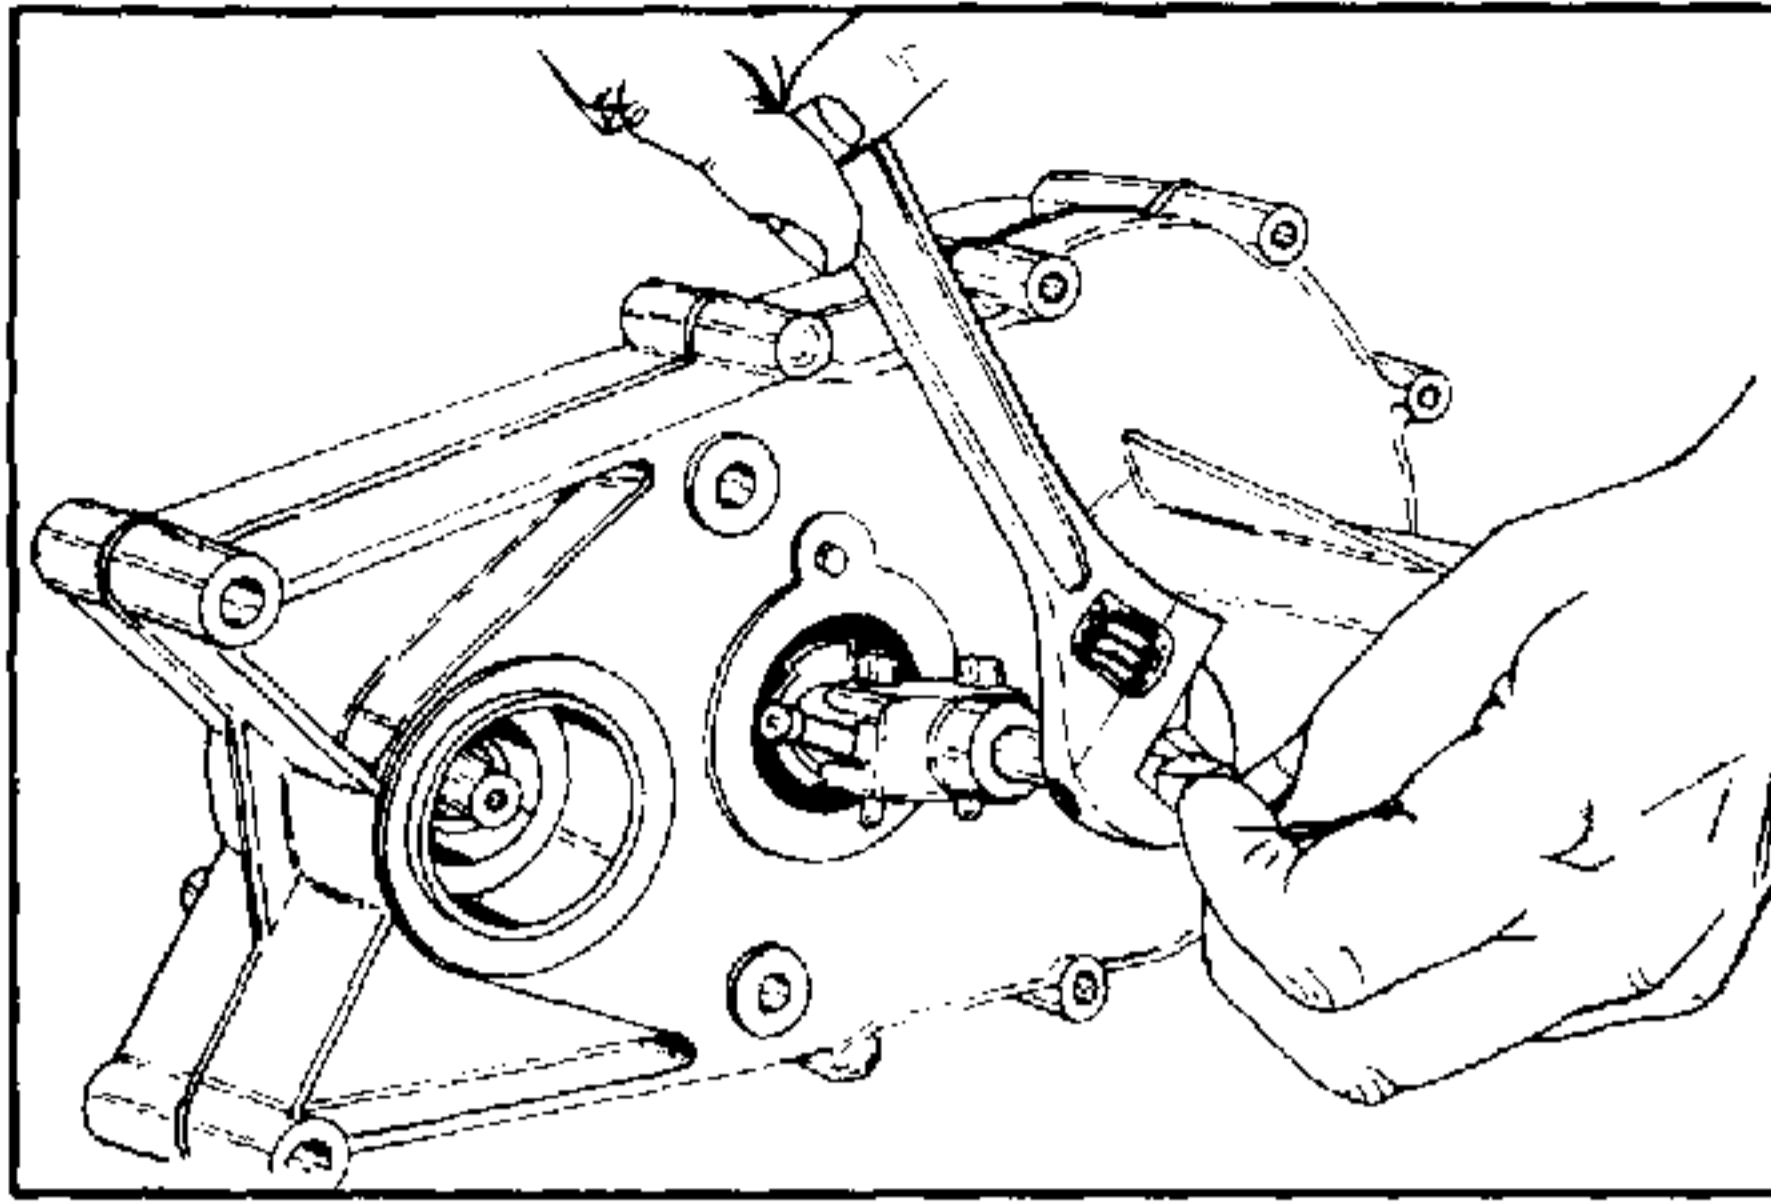

FIGURE 7.
- 4.21 Couplings are locktited in place and thus a puller is recommended. Figure 7. Tapping lightly or heating couplings may be necessary for removal.